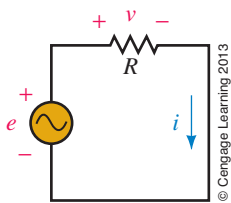

FIGURE 16-52
17. For Figure 16-52, $R = 12\ \Omega$. For each of the following, determine the unknown current or voltage and sketch.